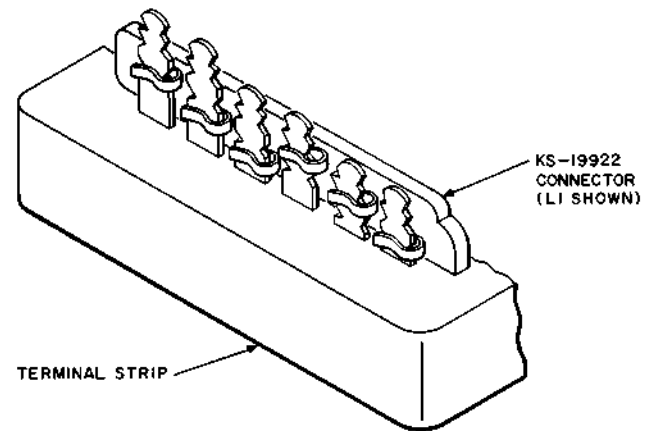

Fig. 24—KS-19922 L1 Through L4 Connectors on Terminal Strip
14.01 The KS-19922 L1 through L4 connectors (Fig. 24) are used in lieu of wire straps to connect subscriber lines to their associated intercept trunks on HIDF terminal strips in panel and step-by-step offices.